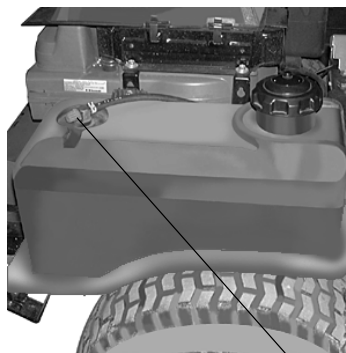

Figure. 4 Fuel Shutoff Valve
6. **Fuel Shutoff Valve:** (See Figure 4.) Located on top of the fuel tank. When turned in a clockwise direction until it stops, it will shut off the flow of fuel to the engine. When turned in a counterclockwise direction it will open and allow fuel to flow to the engine. Close this valve if you are not going to run the machine for a period of 30 minutes or more to prevent flooding the engine.